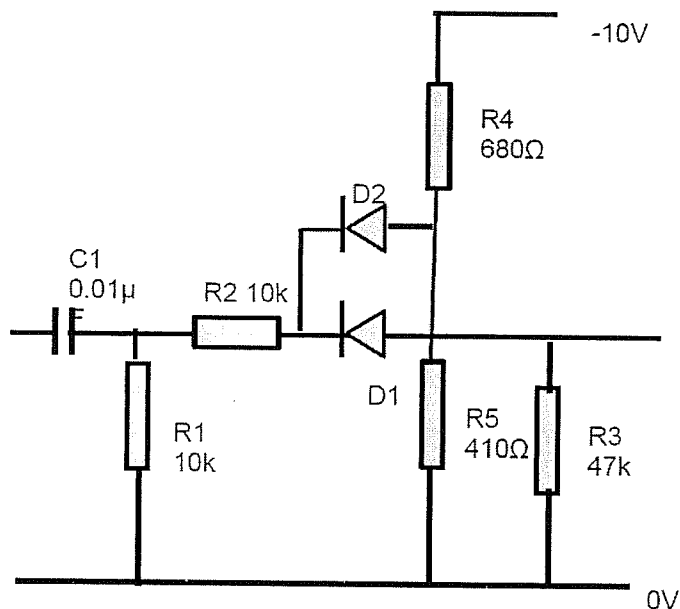
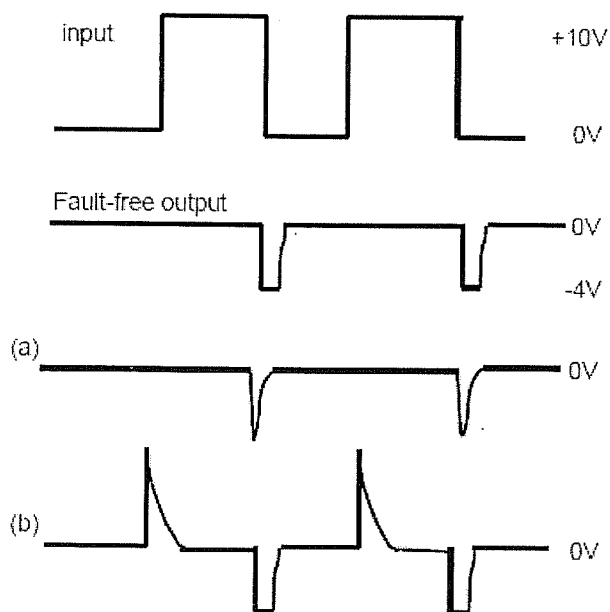

Figure 03
Figure 04
(4) Consider the wave shaping circuit shown in Figure 03. A 10V, 250 Hz square waveform is given as the input. Identify the faults of the circuit for the (a) and (b) waveforms shown in Figure 04 when compared to the expected output waveform.